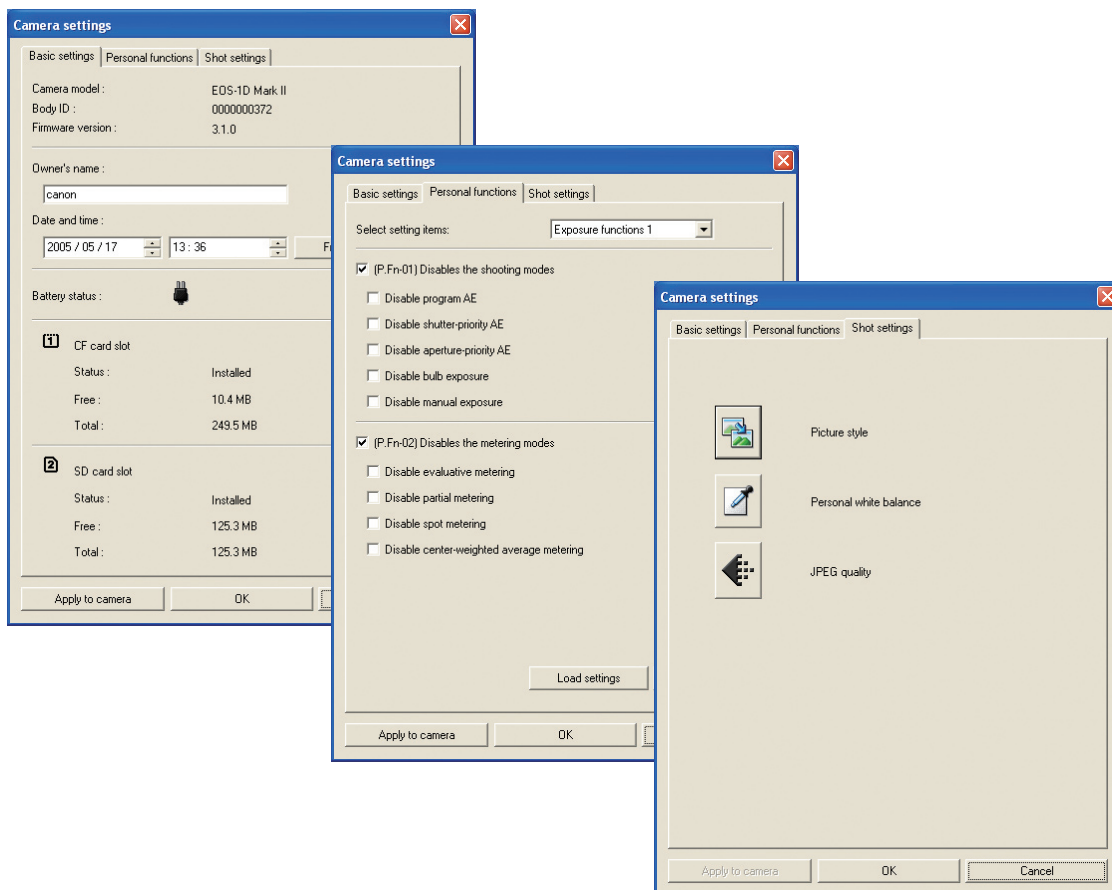

Fig. 010 EOS-1D MarkII N Camera setting windows
- Addition of a camera settings function for EOS-1D series cameras (including the EOS-1D MarkII N) in the Camera settings window, accessed by pressing the "Check/modify camera settings" button (Fig. 010).